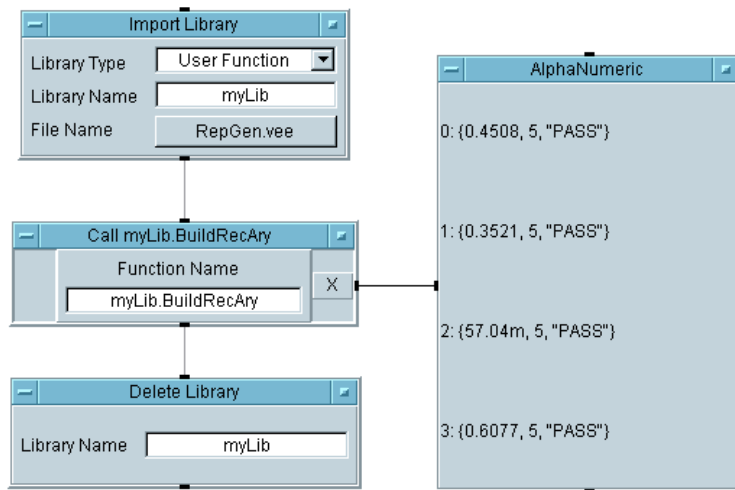

Figure 228 Calling a Function from a Library
- 8 Run the program. It should look like Figure 228. Save the program as **libraries.vee**.
- If an imported function has the same name as a local function, it is allowed, but the local functions are called if only the function name is used. You can explicitly call the imported function with the `MyLib_func()` syntax as in the Call object in Figure 228.